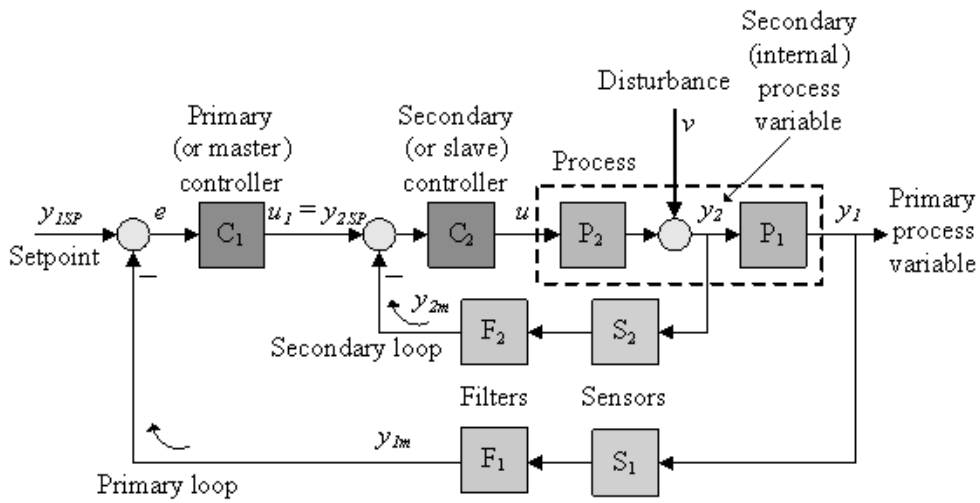

Figure 2: Cascade control system
5. (15%) Figure 2 shows a general block diagram of a cascade control system. The control signal calculated by the primary controller is used as the setpoint of the secondary controller. The secondary control loop compensates quickly for the disturbance so that the disturbance does not influence the primary process output variable. The main benefit of cascade control comparing with single loop control is the ability to more quickly and effectively compensate for process disturbances.